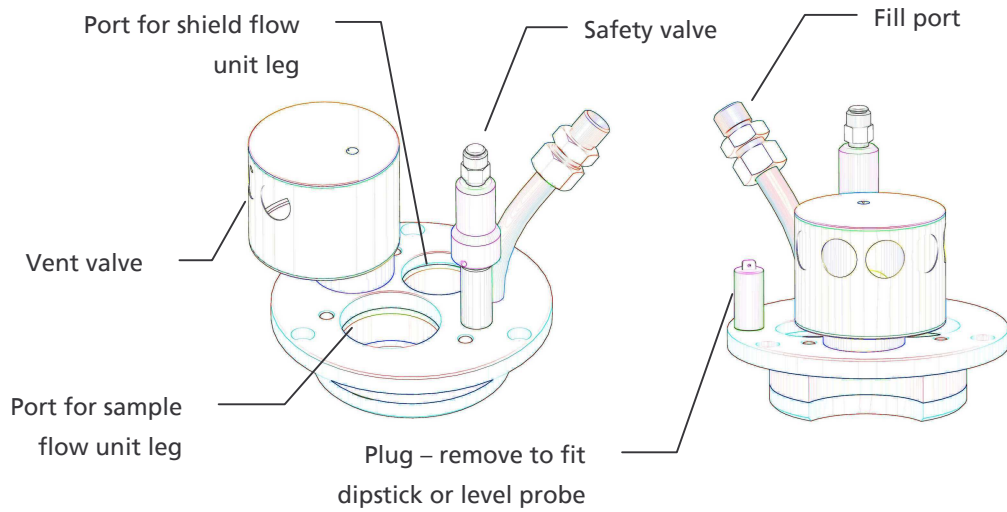

Figure 5 Top fitting for liquid nitrogen dewar
A 75 litre storage dewar is used to store the liquid nitrogen used for the sample flow and shield flow. The dewar has a top fitting with five ports (see Figure 5).
- a) Check that the dewar top fitting (Figure 5) is secured to the dewar using the three M6 screws provided
- h) Push the vent valve (Figure 5) firmly into position on the vent tube until it stops. This is a tight fit, as the vent valve is sealed by an 'O' ring on to the vent tube.